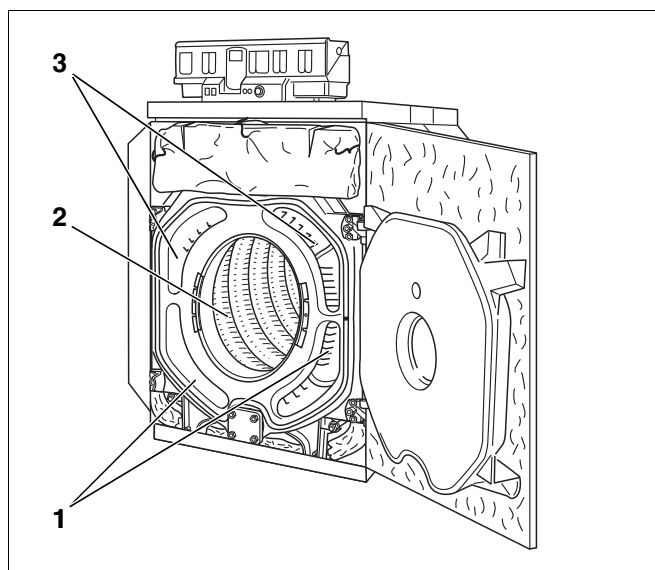

Fig. 74 Cleaning the hot gas flues
- Clean the hot gas flues, starting at the front and working towards the back with cleaning brushes 1 and 2 (Fig. 74, [1] and [3]).
- Clean the rest of the combustion chamber (Fig. 74, [2]) with cleaning brush 2.